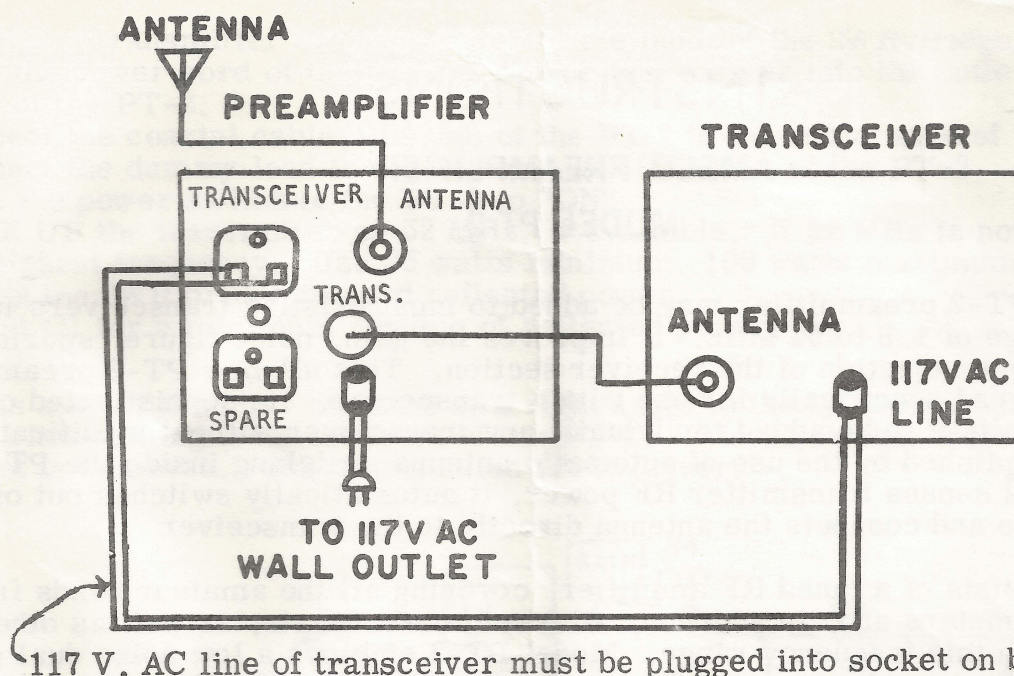
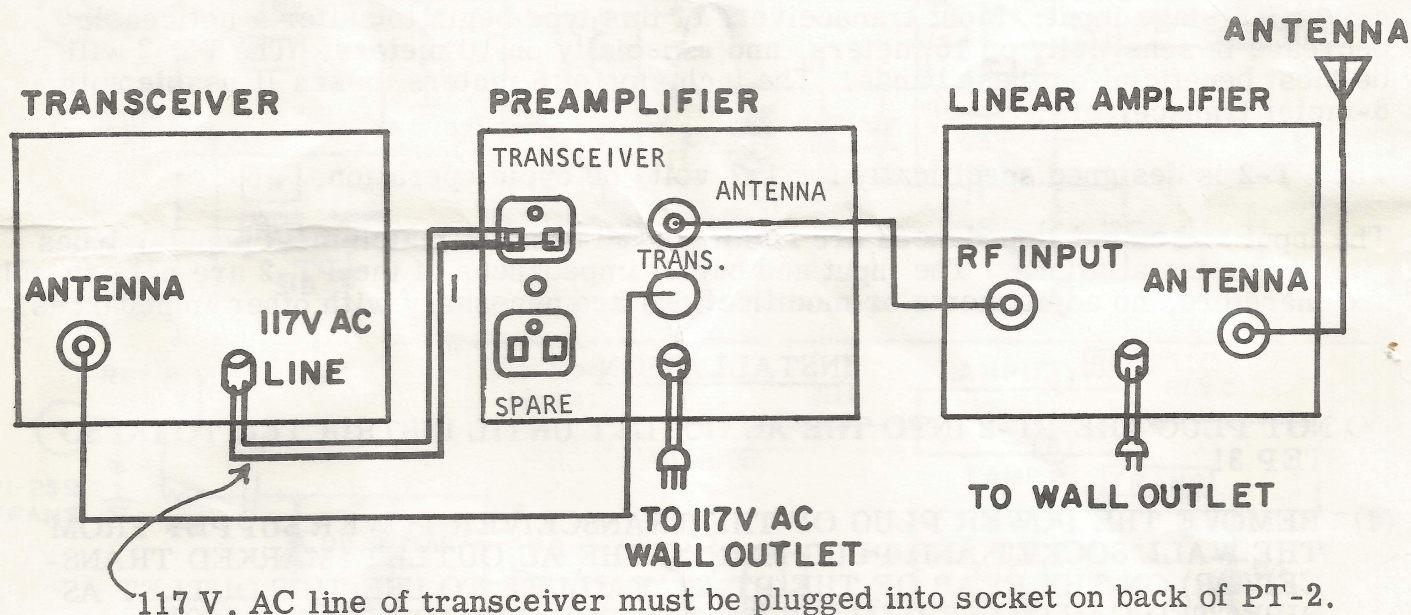

Figure 1. Installation of PT-2 with transceiver only.
Figure 2. Installation of PT-2 with transceiver and linear amplifier.
- (1) REMOVE THE POWER PLUG OF THE TRANSCEIVER POWER SUPPLY FROM THE WALL SOCKET AND PLUG IT INTO THE AC OUTLET (MARKED TRANSCEIVER) ON THE REAR OF THE PT-2. FAILURE TO USE THIS OUTLET AS DIRECTED CAN CAUSE DAMAGE TO THE PREAMPLIFIER. An outlet marked SPARE may be used for a rotator; however, under no circumstances should a linear amplifier be plugged into this outlet socket. THE LINEAR AMPLIFIER SHOULD BE PLUGGED DIRECTLY INTO THE WALL OUTLET BECAUSE OF ITS HIGH CURRENT DRAIN.
- (2) Remove the coaxial antenna line from the transceiver and connect it to the jack marked ANTENNA on the rear of the PT-2. The coaxial cable coming out of the rear of the PT-2, terminating in a coaxial connector, should then be connected to the transceiver's antenna jack. See Figure 1. In those installations employing a linear amplifier, the PT-2 is inserted between the linear amplifier and the transceiver (NOT BETWEEN THE ANTENNA AND THE LINEAR AMPLIFIER). See Figure 2 for the installation involving a linear amplifier.
- (3) The PT-2 unit may now be plugged into the AC outlet. The switch on the front panel will control not only the power to the PT, but all items plugged into the rear outlets. This provides for simplification of station operation and insures that the relay control circuitry will be energized whenever the transceiver is in use. **FAILURE TO DO THIS WILL CAUSE EQUIPMENT DAMAGE!**